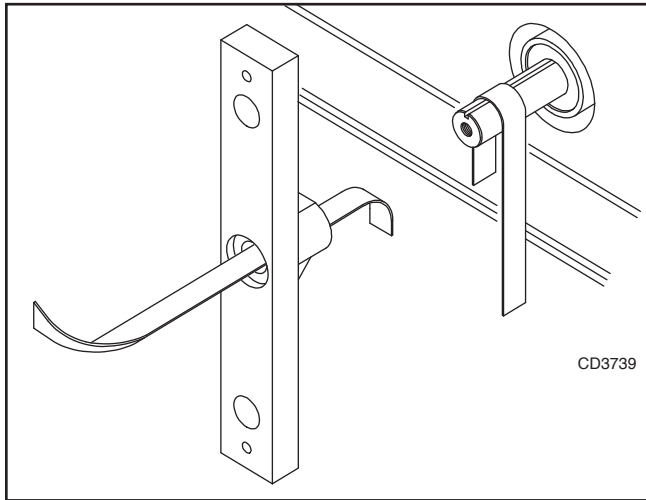

Figure 21.
- Using emery cloth (220 or finer), remove surface rust, Loctite® and foreign material from hub, splined shaft, vertical shaft, and crossbar as shown in Figure 21.